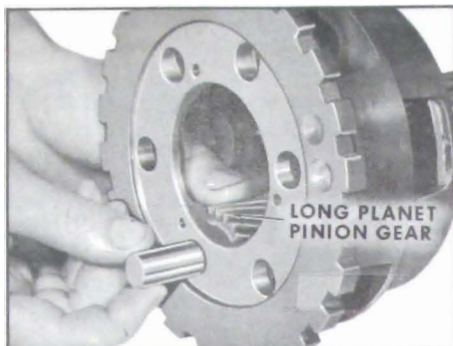

Figure 5-264
5. Position the long planet pinion assembly with the thrust washers at each end, in the planet carrier. Install the pinion shaft from the front of the carrier. As the shaft is being pushed in, make certain that it picks up the thrust washer. Turn the pinion shaft so the groove faces the center of the planet carrier. See Figure 5-264.